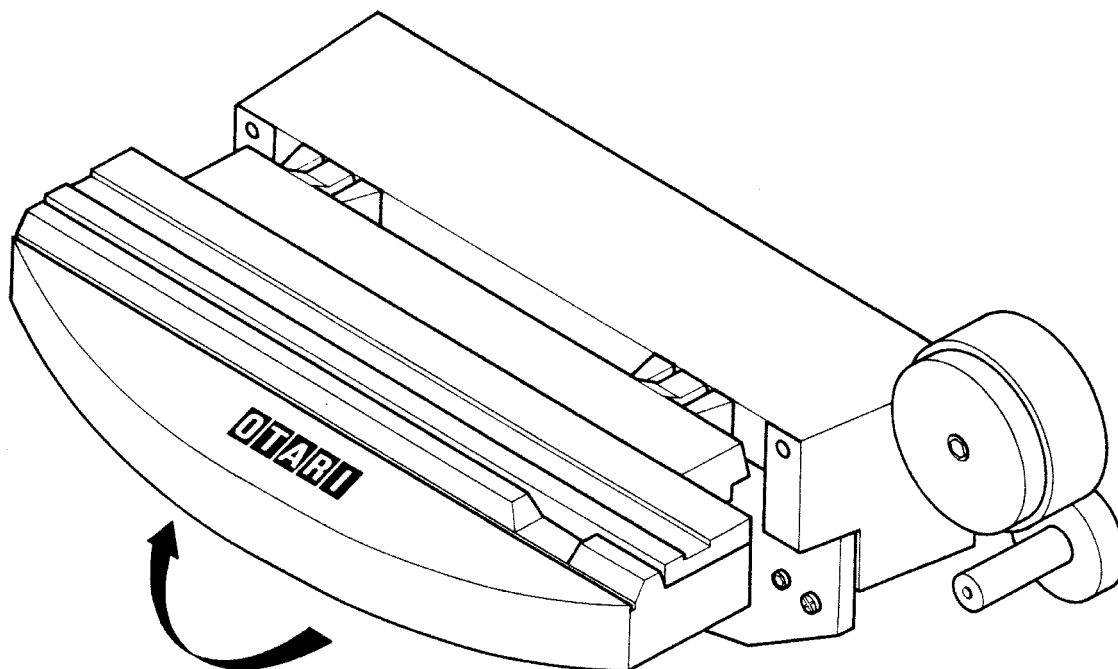

Figure 5-1 Lifting the Head Cover
- (1) Disconnect the power cable from the power supply.
- (2) Lift the head cover as shown in Figure 5-1.
- (1) Turn equipment power off and move any recorded tape near the transport away (tape could be partially erased by the demagnetizer) •
- (3) Cover the demagnetizer tips with an adhesive tape to prevent scratching the head stacks.
- (4) With the demagnetizer at least three feet away from the transport, connect the demagnetizer to a power source.
- (5) Slowly move the demagnetizer tips close to the head, lightly touch the demagnetizer tips to the face of one head stack and slowly move the tips up and down at the entire face of the stack several times.